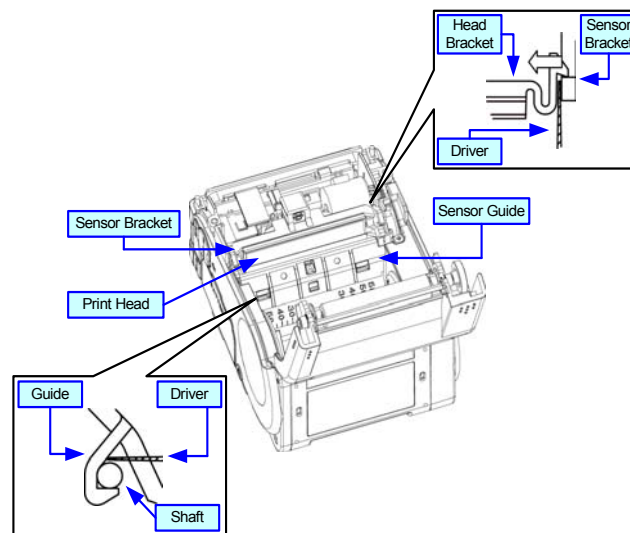

Figure 7-2a, Dispense Bar Replacement
- 3 Insert a flat driver between a dispense bracket and the top housing cover (Figure 7-2a).